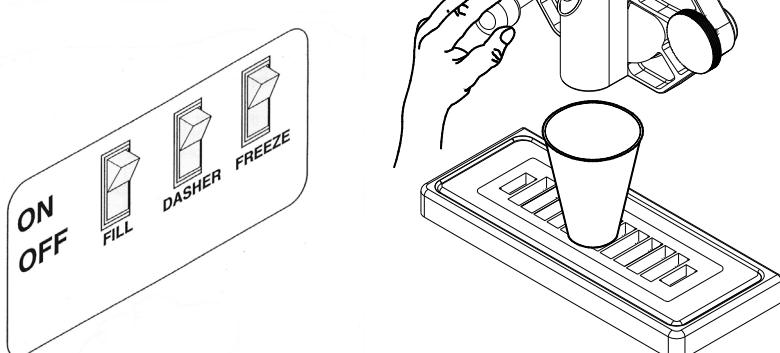
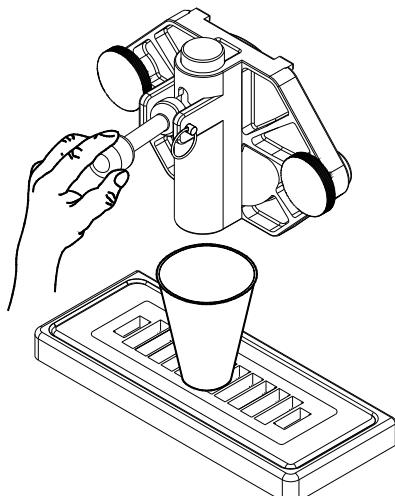

Fig. 7
Fig. 8
2. Fill the machine with cold water and set the dasher switch (Fig. 7) to the "ON" position. **DO NOT** use hot water which could damage the machine. Let the machine agitate 1 to 2 minutes, then drain the water by pulling downward on the spigot handle (Fig. 8). Repeat the above procedure as necessary to make certain all product is removed from the machine. After the machine is empty, set the dasher switch to the "OFF" position.
5. Set the dasher switch (Fig. 7) to the "ON" position and agitate for approximately 1 to 2 minutes and then drain the water by pulling down on the spigot handle (Fig. 8). After the unit is empty, set the dasher switch to the "OFF" position.